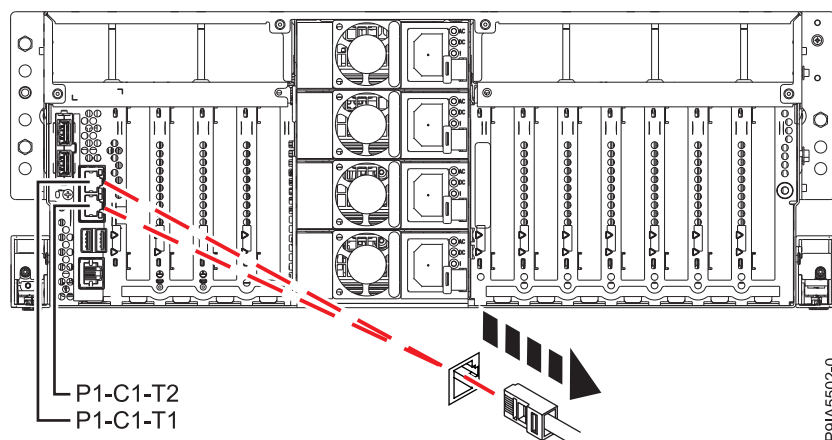

Figure 1. Removing an HMC cable
2. Disconnect the HMC cable indicated in the **FRU Location** field in the upper left of this page. See Figure 1.